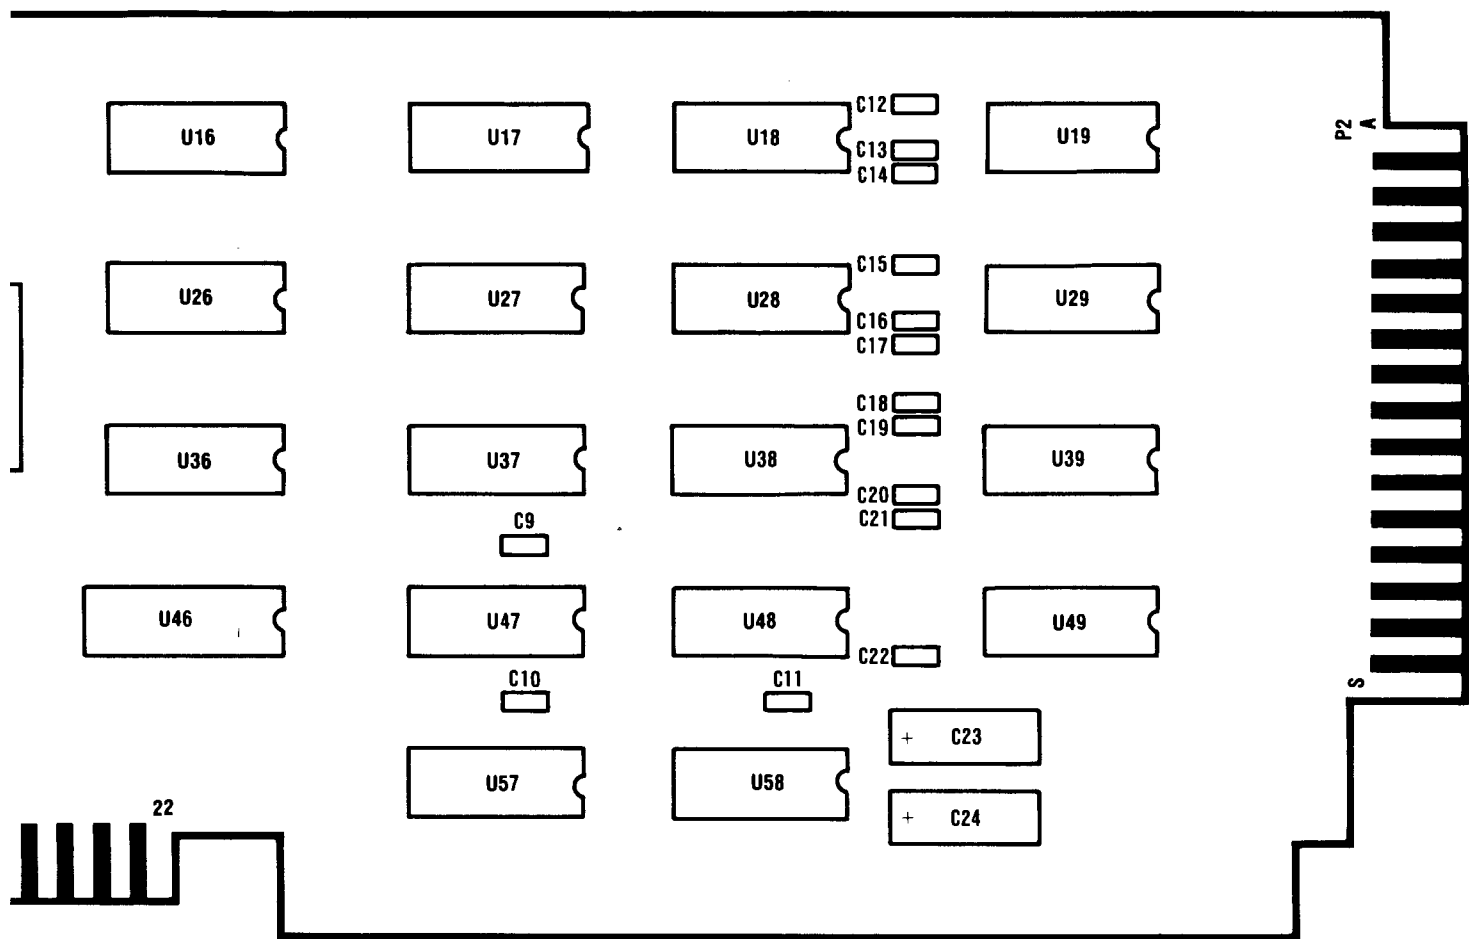

Figure 3
3.0 **FUNCTIONAL DESCRIPTION.** Refer to the block diagram (figure 1), schematic diagram (figure 2), component location diagram (figure 3), and parts list (02640-60239) located in the appendix.